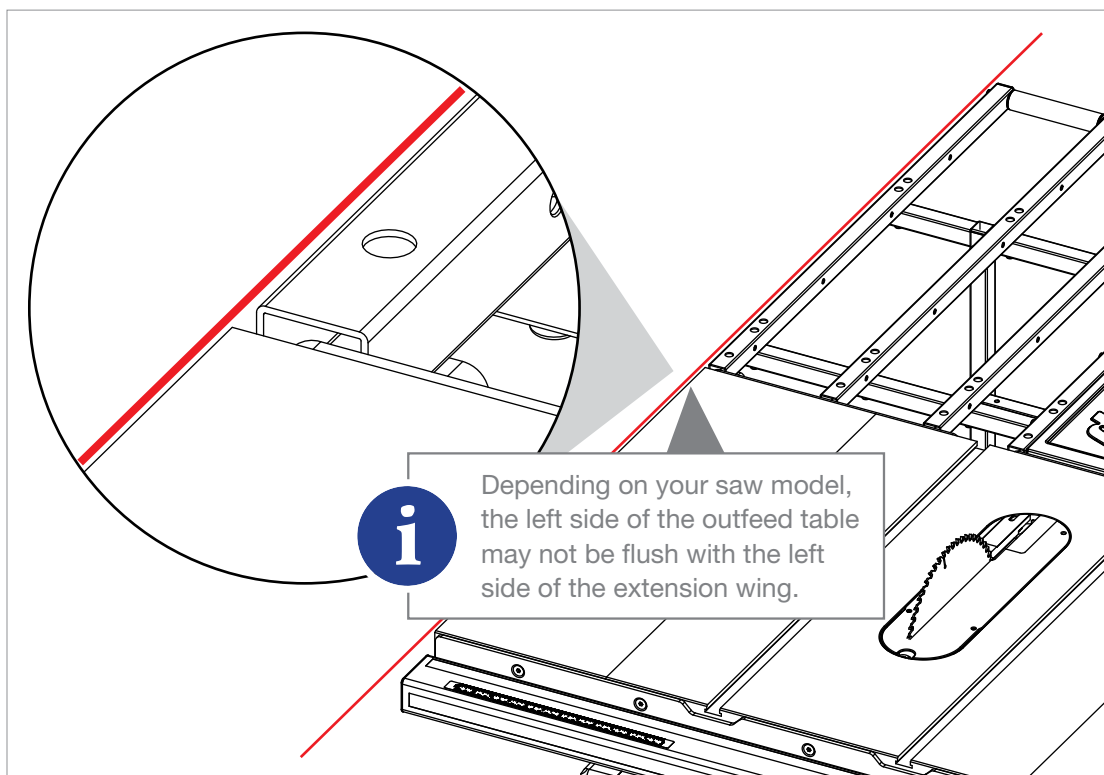

Fig. 25
- 18** Slide the Folding Outfeed Table toward the left end of the rear rail on the table saw (from the user perspective), until the edge of a table support tube is flush with the end of the rear rail. If necessary, use a 5mm wrench to loosen the M10 x 20 set screws on the rear rail clamps near the insert table (see Fig. 25).